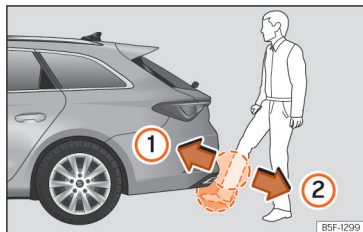

Fig. 81 Rear lid with sensor-controlled opening (Easy Open).
- With a brisk movement, bring your foot and lower leg as close as you can to the bumper. The lower part of the leg needs to be close to the upper sensor area and your foot to the lower sensor area **>>>** **Fig. 81 ①**.
- Quickly remove your foot and lower leg from the sensor areas **>>>** **Fig. 81 ②**. The rear lid will open automatically.